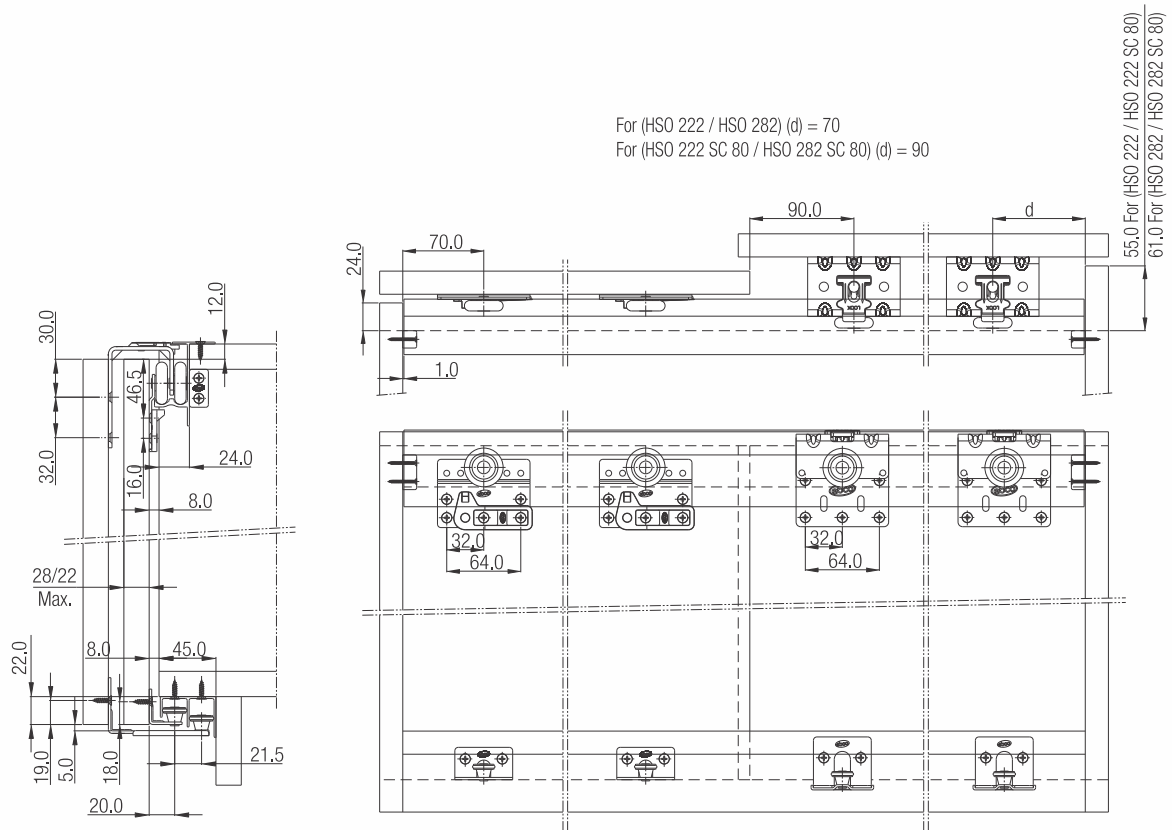
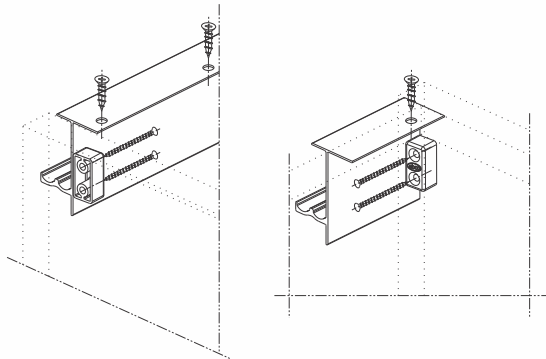

Fig. 1.
Fig. 2.
1. Fit the Top Track to the top face of the cabinet as shown in Fig. 2 (For dimensions Refer Fig.1).
2. Fit the Top Track support behind the top track & to the inner side face of the cabinet as shown in Fig. 2.
3. Fit the Bottom Track to the bottom face of the cabinet as shown in Fig. 3 (For dimensions Refer Fig.1).
4. Fit the Top Hanger Outer to the inner face of the Outer Shutter & Top Hanger Inner to the inner face of the Inner shutter as shown in Fig. 1.
5. Fit the Bottom Guide Outer to the inner face of the Outer Shutter & Bottom Guide Inner to the inner face of the Inner shutter as shown in Fig. 1.